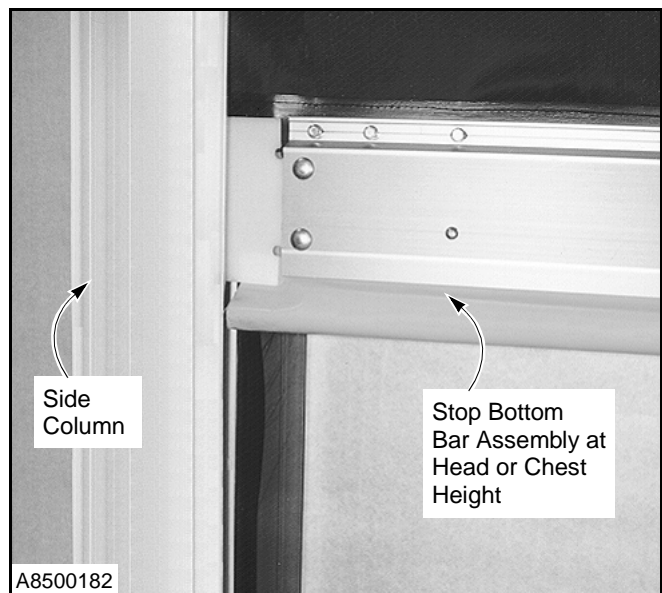

Figure 72
1. Raise or lower the door, as necessary, until the bottom bar is approximately head or chest height. (See Figure 72.)